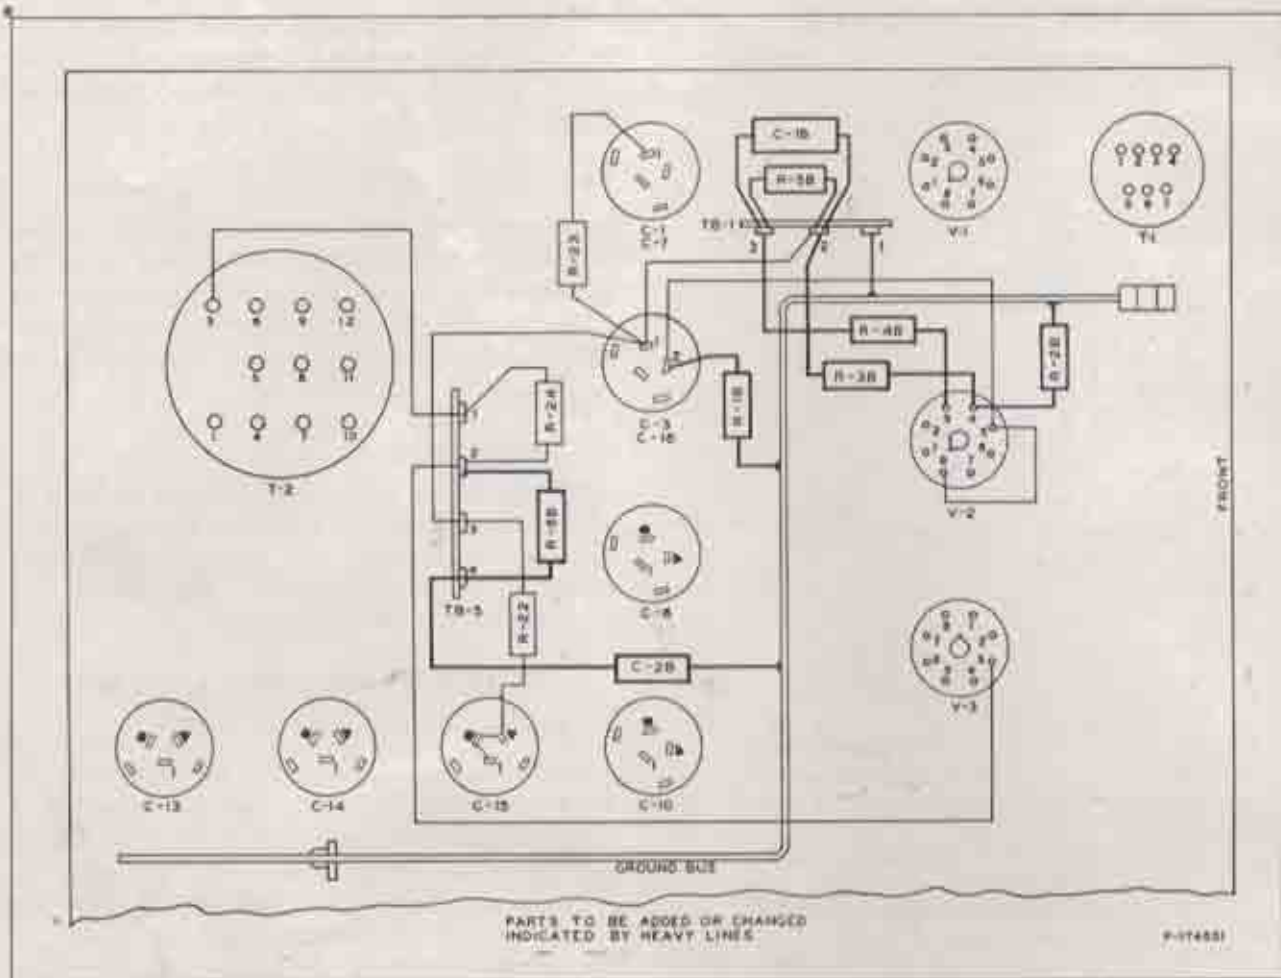

Figure 7—Partial wiring diagram for compensation.
a. Connect resistor R-6B (1,000 ohms) across terminal 2 and terminal 4 on terminal board TB-5 as shown in figure 7.
To increase the gain in the low-frequency region, refer to figure 7 and make the following changes:
NOTE: Terminal board TB-1 stands vertically on the chassis but is shown in the horizontal position in figure 7 for the sake of clarity. Terminal 3 is at the top, terminal 2 in the middle, and terminal 1 at the bottom.